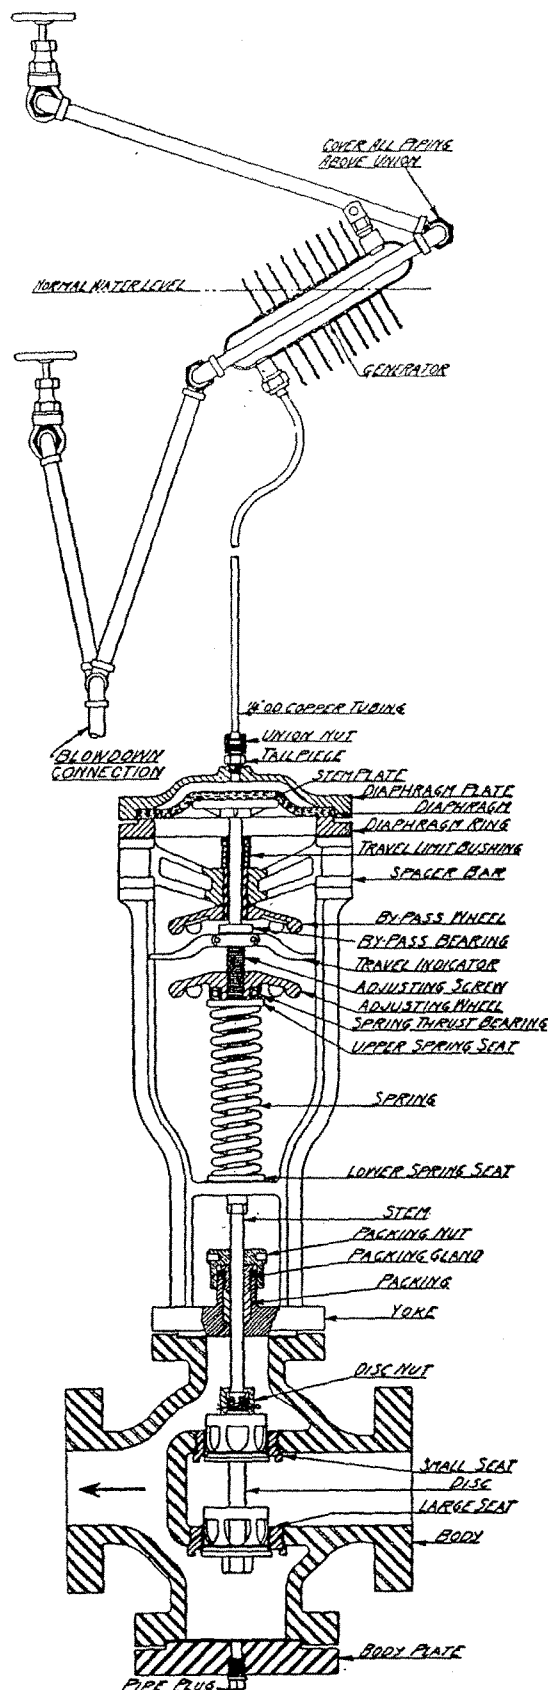

Fig. 332
2. Install the valve so the flow is in the direction of the arrow shown in Fig. 332.
4. Cover all piping above the generator as shown in Fig. 332. Do not cover or paint the generator or any of the lower generator piping.